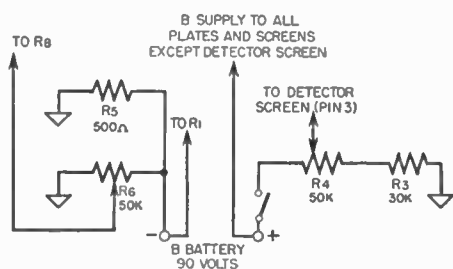

Fig. 8-17. B. supply circuit.
b) B Supply Circuit. See Figure 8-17.
Connect the left-hand terminal of the volume control (as you face the shaft end of the control) to the B-minus terminal (see B-supply diagram, Figure 8-17). Connect one end of the coupling condenser, C3, to the high side of the control (the terminal at the extreme right). The grid terminal of the tube socket is now connected to the center terminal of R1. The blue wire (or plate terminal)